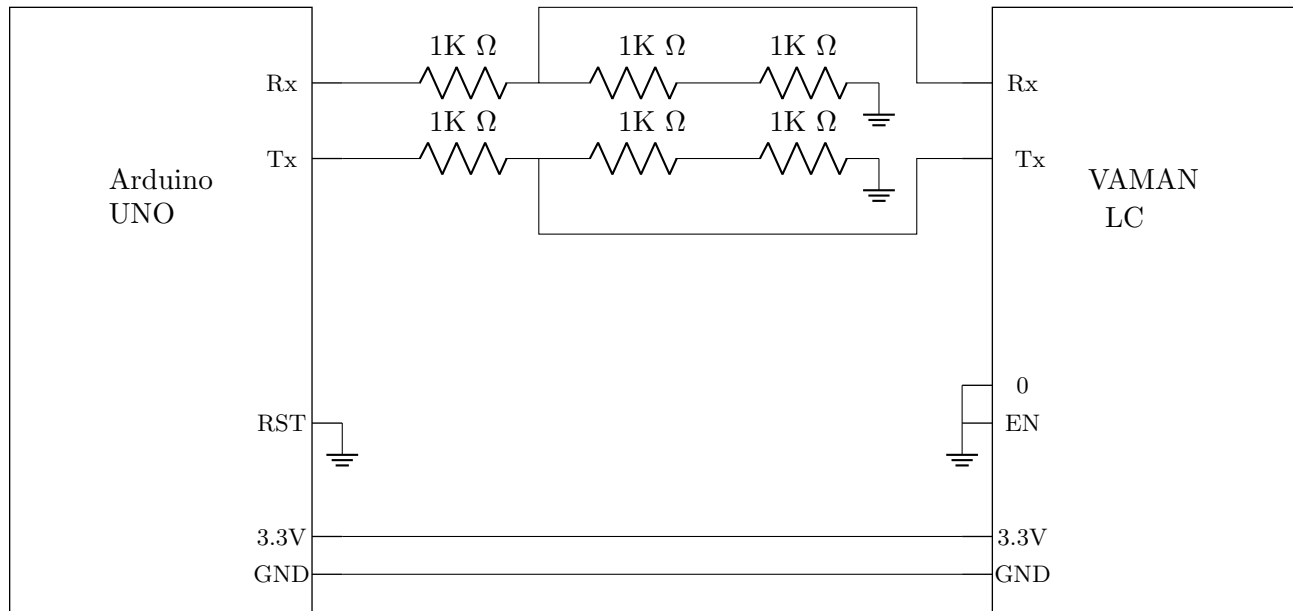

Figure 9.2.1.1: Circuit Connections
9.2.1. Do not power any devices. Make connections as shown in Table 9.2.1.1 and Fig. 9.2.1.1.
The Vaman pin diagram is available in Fig. 9.2.1.2